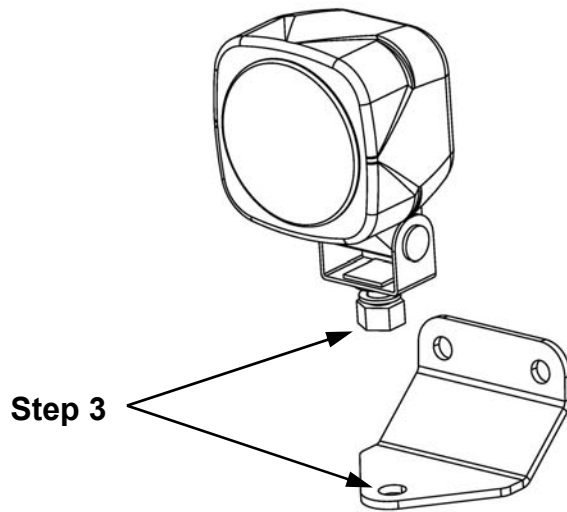

Figure 2
1. Remove the (2) 5/16" bolts that secure the switch panel to the cab frame header area.
3. Secure light (Item 11) to mount bracket (Item 1) using the existing light bracket mount hardware. **(Figure 2).**